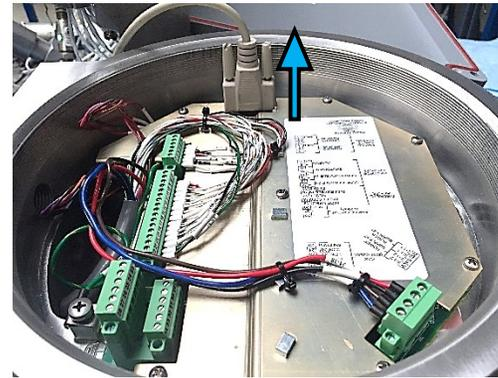

Figure 2-82. Disconnecting RS-232 Link
72. Disconnect the RS-232 communication cable from the newly installed VariStroke. (Figure 2-82).